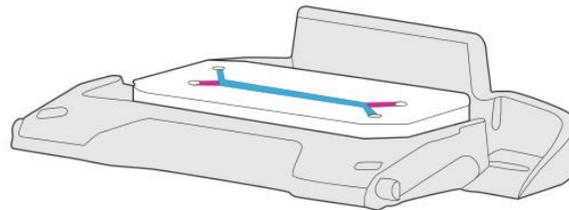

Figure 3: View of chip with no excess ER-1 solution on surface
5. Remove all excess ER-1 solution from the surface of the chip by gentle aspiration. Be sure to only remove ER-1 solution from the chip surface — do not aspirate ER-1 from the channels. (See Figure. 3 below.)